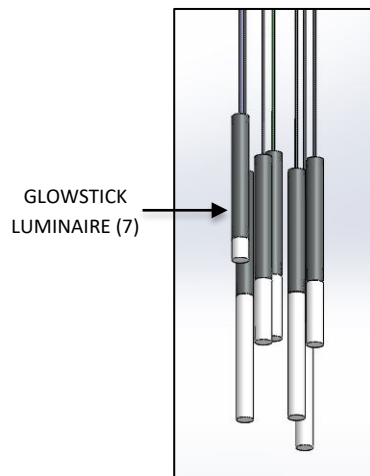

FIG.2 GLOWSTICK LUMINAIRE (PRE-ASSEMBLED)
1. GLOWSTICK LUMINAIRE (7) with CORD attached. (Pre-assembled as shown in FIG. 2)